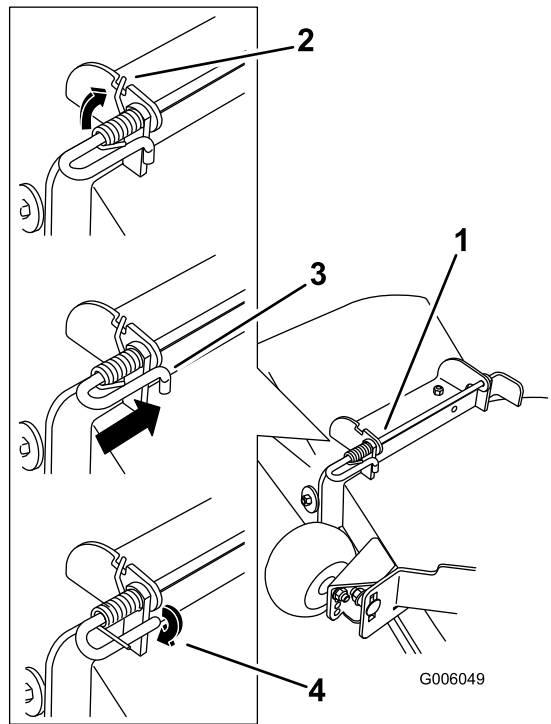

Figure 72
4. Lift the long end of the spring and place it into the notch on the deflector assembly bracket (Figure 72).
5. Secure the rod and spring assembly by twisting it so the short end of the rod can be placed behind the front bracket welded to the deck (Figure 72).